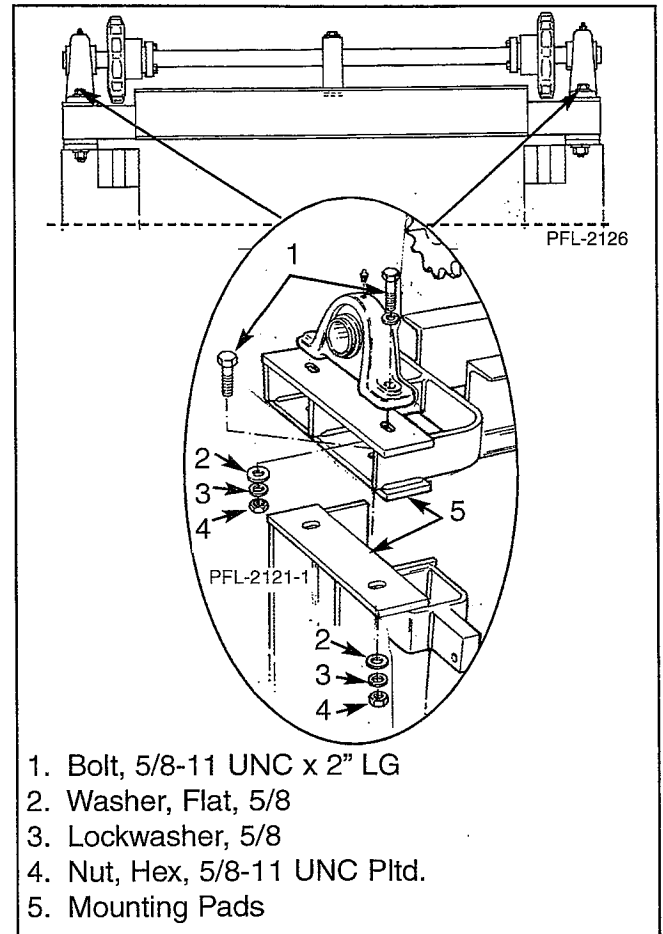

Figure 13
- Install bolts as illustrated. Snug bolts down. Tighten enough to allow for adjustment. See Figure 13.